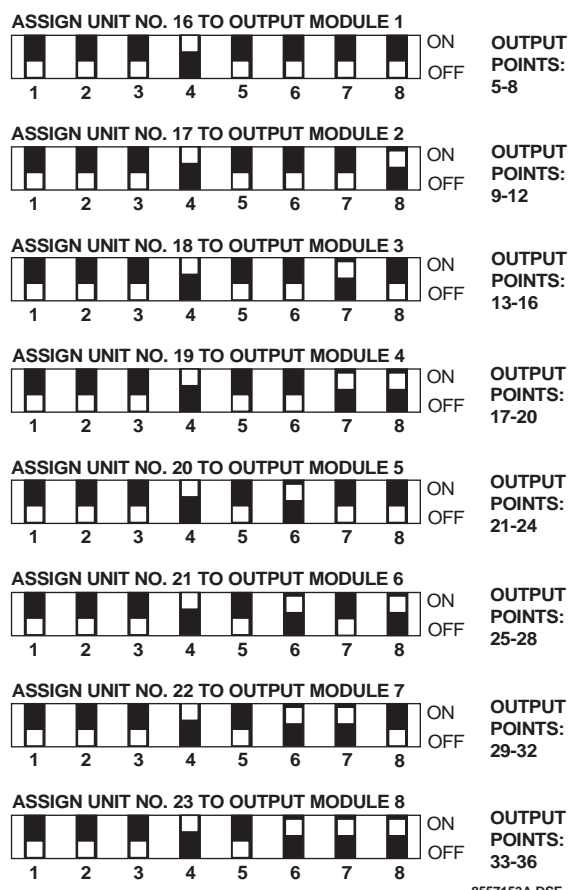

Figure 9. DIP Switch Settings for HOMs 1 through 8 for Use with 1251 Access Control Panel
1. Set the HOM DIP switches on the first HOM to the unit number 16 setting as shown in Figure 9.
3. Assign unit number 17 to the second HOM by setting the DIP switches as shown in Figure 9.